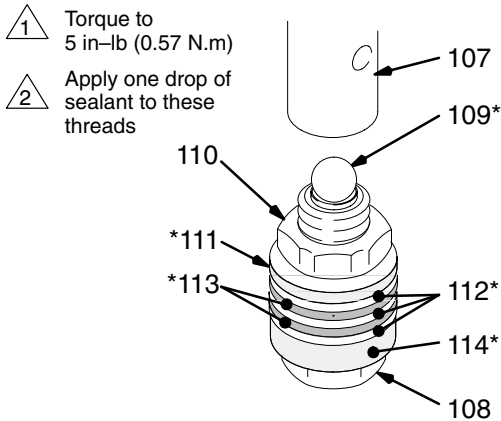

Fig. 19 _____ 01070
- Tighten the nut (110) onto the piston valve (108) to 5 in-lb (0.57 N.m). See Fig. 19.
- Place the ball (109*) on the piston valve (108). See Fig. 19.